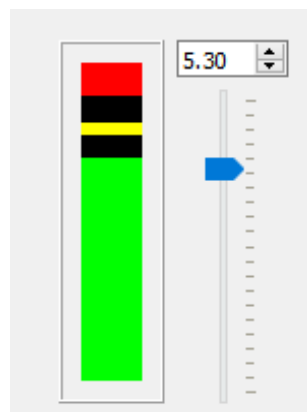

Figure 131 – Recording overloading input
- “**Record**” starts the recording process, coloured indicators will appear in the black box (Figure 131) according to the level set by the blue slider or numerical box.